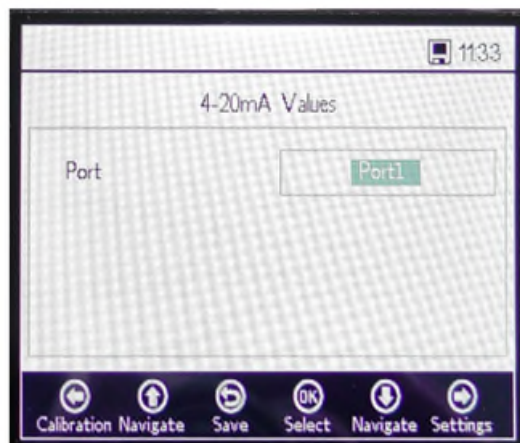

Figure 66. Analogues - 4-20mA values for mode “Off”
- **Off:** No values can be entered. Refer to Figure 66.